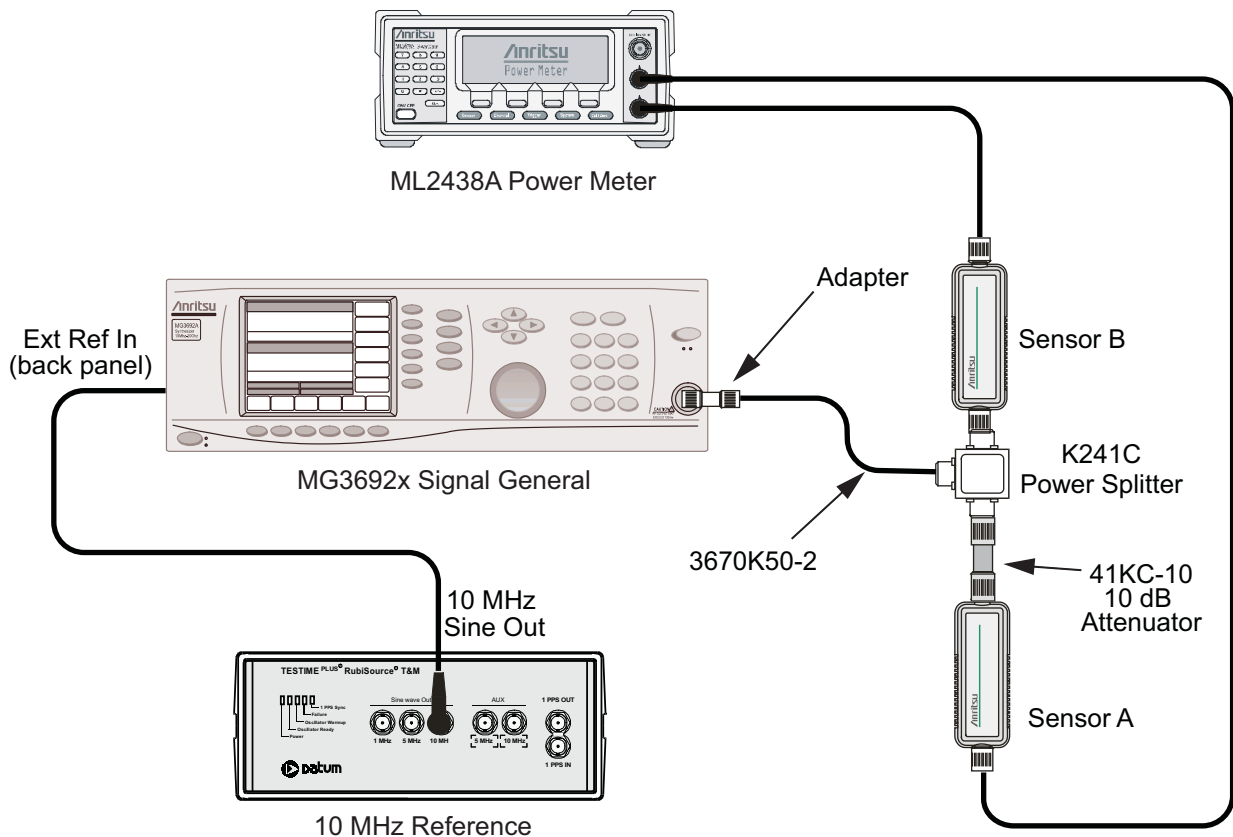

Figure 2-3. 50 MHz Amplitude Accuracy Verification for Models with K Connectors
3. Connect the Model 1870A or K241C power splitter to the MG3692x or MG3695C output via the 34NN50A or 34VKF50 adapter, and connect Sensor B to one of the power splitter output connections (refer to Figure 2-3).